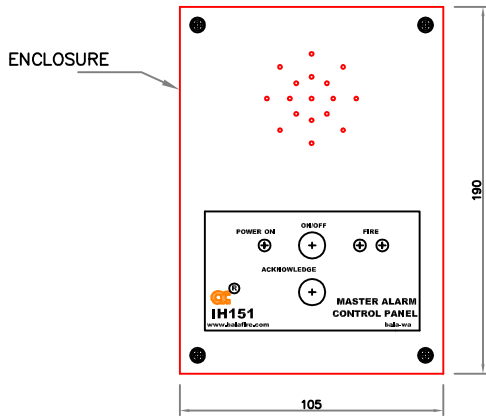
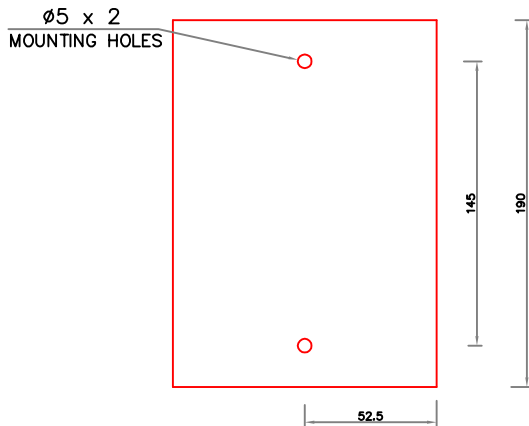

FIG. 1
FIG. 3
1. Remove four screw of top cover (Refer Fig.1)
2. Take back box. Fix back box firmly in vertical position (Refer Fig.1) using mounting hole (Refer Fig.3).